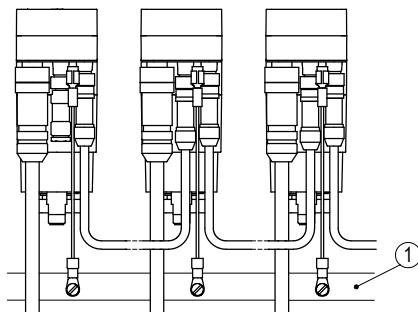

Fig. 9: Ground bar
inadmissible currents on the screen. Apply the PE connection ④ to the protective conductor potential below the connecting plugs (see Fig. 8). Use 6.3 mm flat connectors with short strands 2.5 ... 4 mm² (not in the scope of delivery). For multiple actuators we recommend connecting the earthing to a ground bar ① (see Fig. 9).